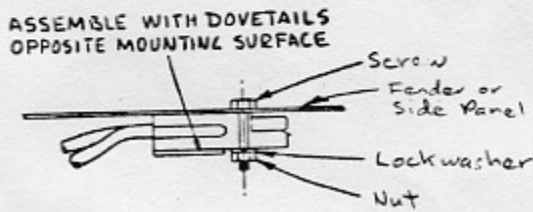

Fig. 3 - Receptacle Mounting
9. Attach receptacle to left fender as shown in Figure 3 .
5. Attach receptacle to inside of right side panel as shown in Figure 3 .